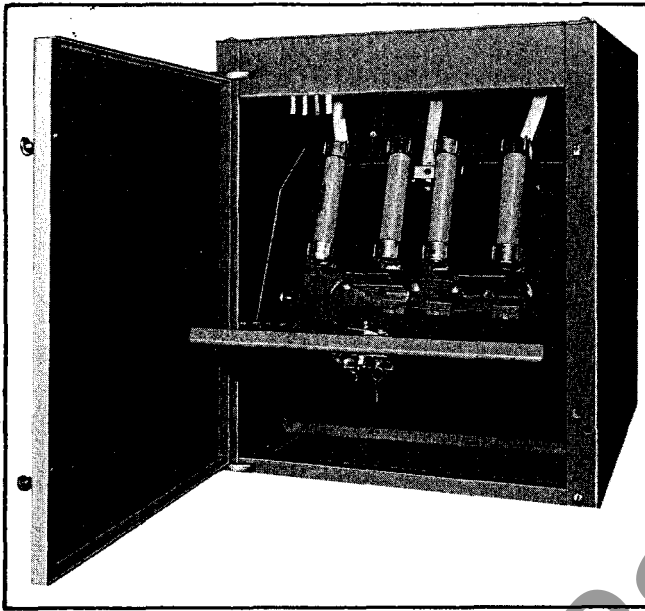

Figure 1-10.
1.2.6 Disconnecting Type Potential Transformers (Figure 1-10)